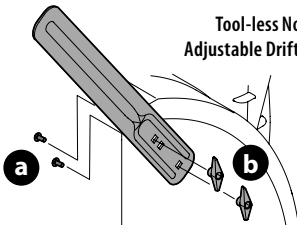

Figure 38
1. Remove two carriage bolts (a) and wing knob (b) that secure each drift cutter, and remove them from the sides of auger housing (Figure 38).
- Turn the drift cutters around and position them as shown in Figure 38 to the outside of the auger housing.